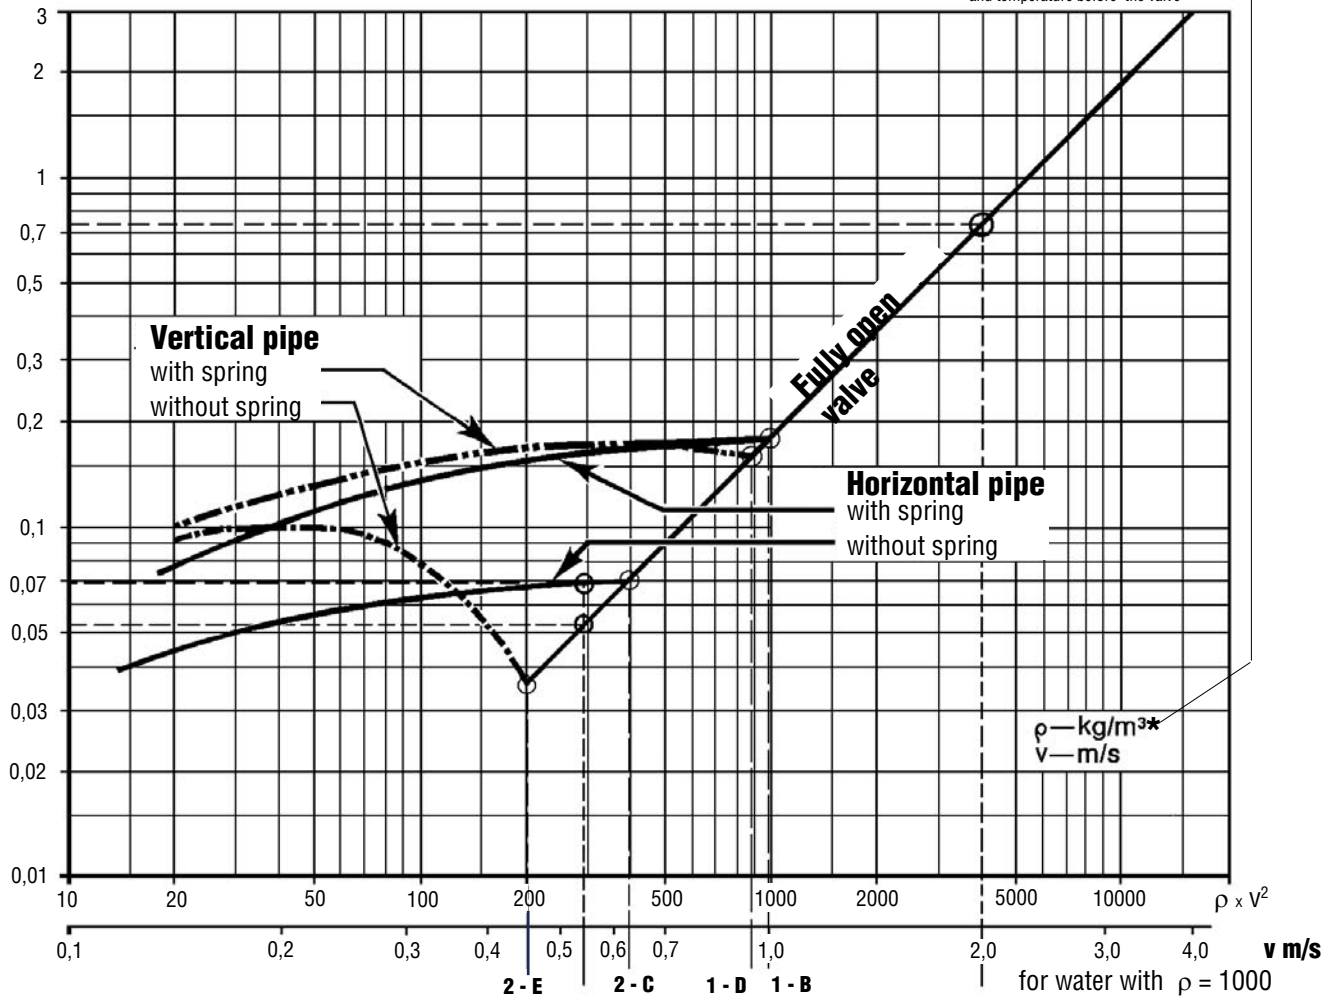

Fig. 1
The dynamic opening force on the disc depends on density of the medium and flow velocity in the pipe. Use the diagram in fig. 1. Set the value of $\rho x v^2$ on the horizontal axis and check the curves.
The curves in fig. 1 represent sizes up to DN 250. The pressure drop is lower for larger sizes. Reduce the diagram pressure drop values with following factors:
- A.** Before the valve is fully open, the pressure drop across it exceeds the value shown - see fig. 1.
- 2.** Low-pressure gases. The opening dynamic force is affected by density. Make certain that velocity and density are adequate to open the valve - fig. 1.